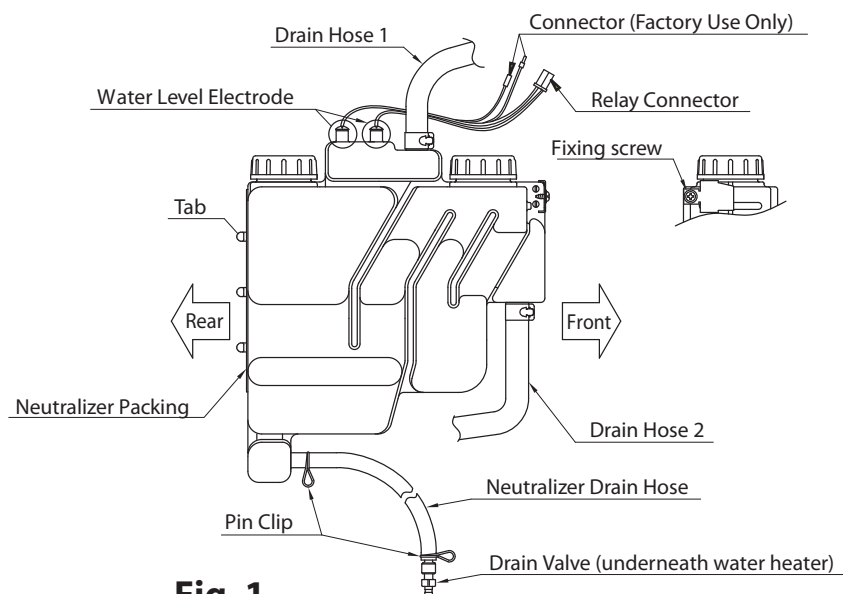

Fig. 1
2. Drain water from the neutralizer using the drain valve located underneath the water heater (Fig. 1).
3. Disconnect the relay connector, remove the fixing screw, and remove drain hose 1, drain hose 2, and the neutralizer drain hose (Fig. 1). Remove the neutralizer by lifting up on it to disengage the tabs.
Do not connect the wires labeled as "Connector (Factory Use Only)" as shown in Fig. 1.